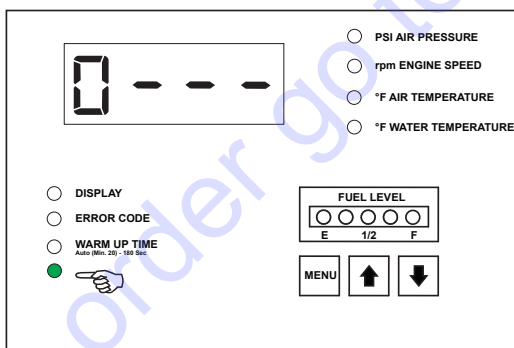

Figure 33. Pressure Adjustment
3. The 7-segment display will now read "0 ---" and the **OTHER FUNCTIONS** LED will light up (Figure 33).